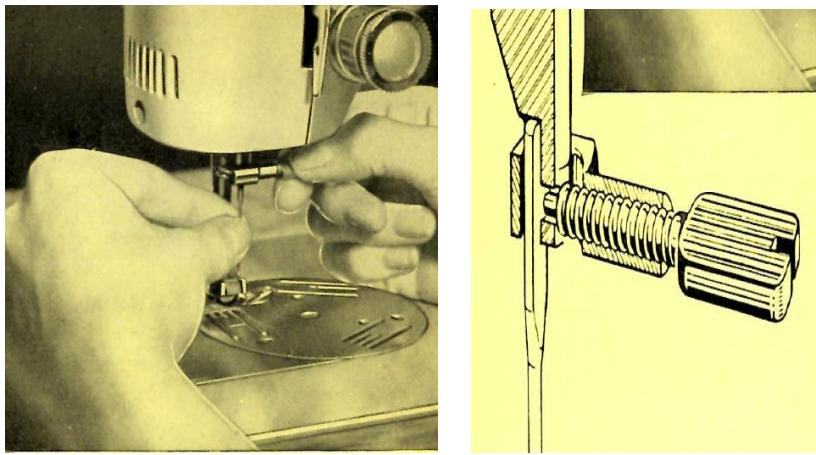

Figure 6
- b) Loosen needle clamp screw (Figure 6) and insert needle into the groove of the needle. Make sure that the flat side of the needle shank is towards the right.